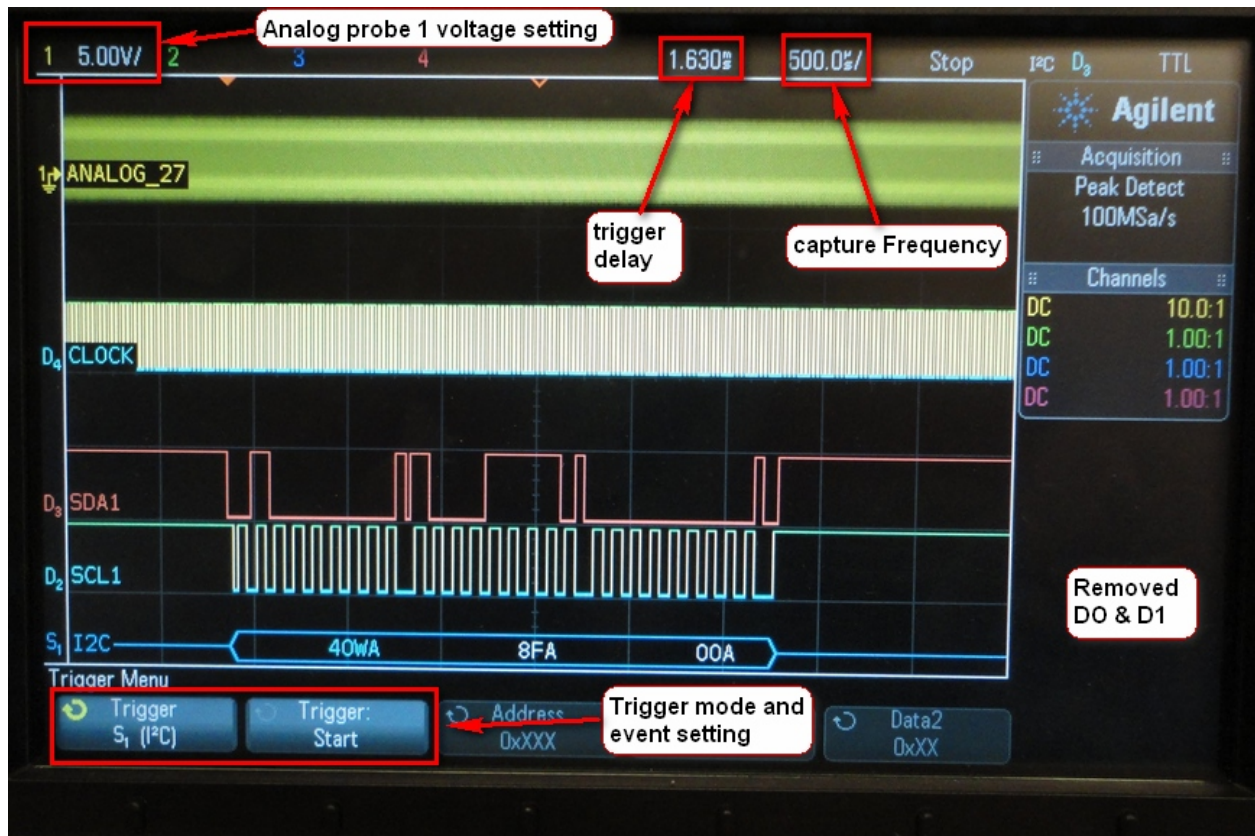

Figure 21 – add analog probe 1 input and remove D0 and D1
- Move **D2** (SCL1) , **D3** (SDA1) and **D4** (CLOCK) down on the scope. See **figure 21**.
- Select analog probe **1** (Yellow channel) and move it up to the top of the scope. See **figure 21**.
- Toggle **switch 2** (GO) from a down to up position.
The result should look like **figure 21**. **Analog_27** represents the 27 MHz clock. By adjusting the frequency and using the cursors you can verify if this is true or not. This is optional.